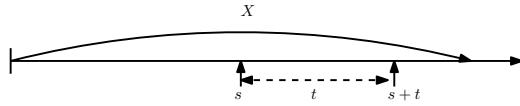

Figure 3.20: Exponential X overshooting s with more than t
- **Memoryless:** For all $t, s > 0$, we have (see Figure 3.20)